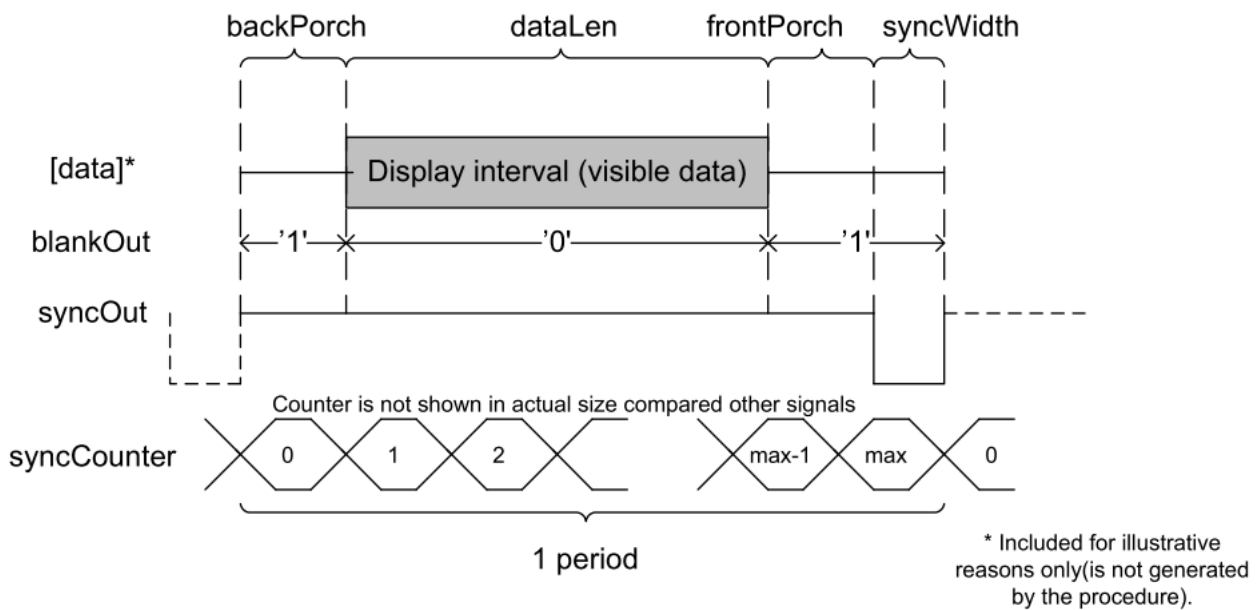

FIGURE 3 VGA TIMING
A graphics controller uses a clock signal as a time reference, so the back- and front porch times are always converted into a number of clock cycles. Figure 3 shows a timing diagram of the interface. The diagram is valid both vertically and horizontally. When we are in the dark regions, the “blankOut” signal is active to blank- or shut off the pixels. At the end of each line, the “syncOut” signal goes low to indicate that a new horizontal line (or vertical frame) on its rising edge. Valid pixel data (RGB) can be output in the data interval, also shown in the figure.
- 3) Implement the functionality as described in Figure 3. The procedure must update the SyncCounter each time it is called, and the BlankOut and SyncOut signals must be updated based on the current SyncCounter count.